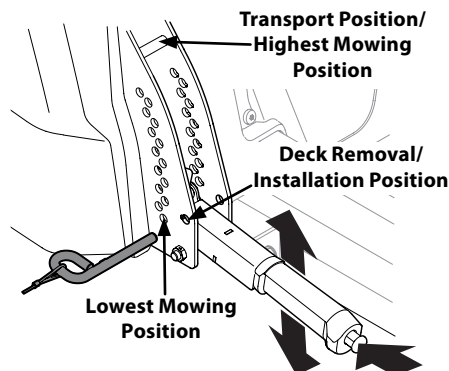

Figure 4-10
- a. Using the deck lift handle, raise the deck to the position that provides the most horizontal run of the belt between the deck idler pulleys and the PTO pulley on the bottom of the engine. See Figure 4-10.
- d. Lower the deck into the deck removal/installation position using the deck lift handle. See Figure 4-10.
- e. Lower the deck into the deck removal/installation position using the deck lift handle. See Figure 4-10.
1. Place the deck lift handle in the highest mowing position See Figure 4-10.